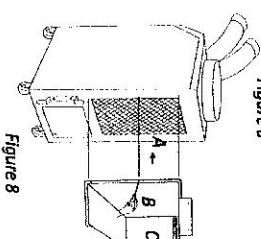

Figure 8
3. Install "B" which contains "C" by using driver with enclosed bolts (SEA) as Figure 8.